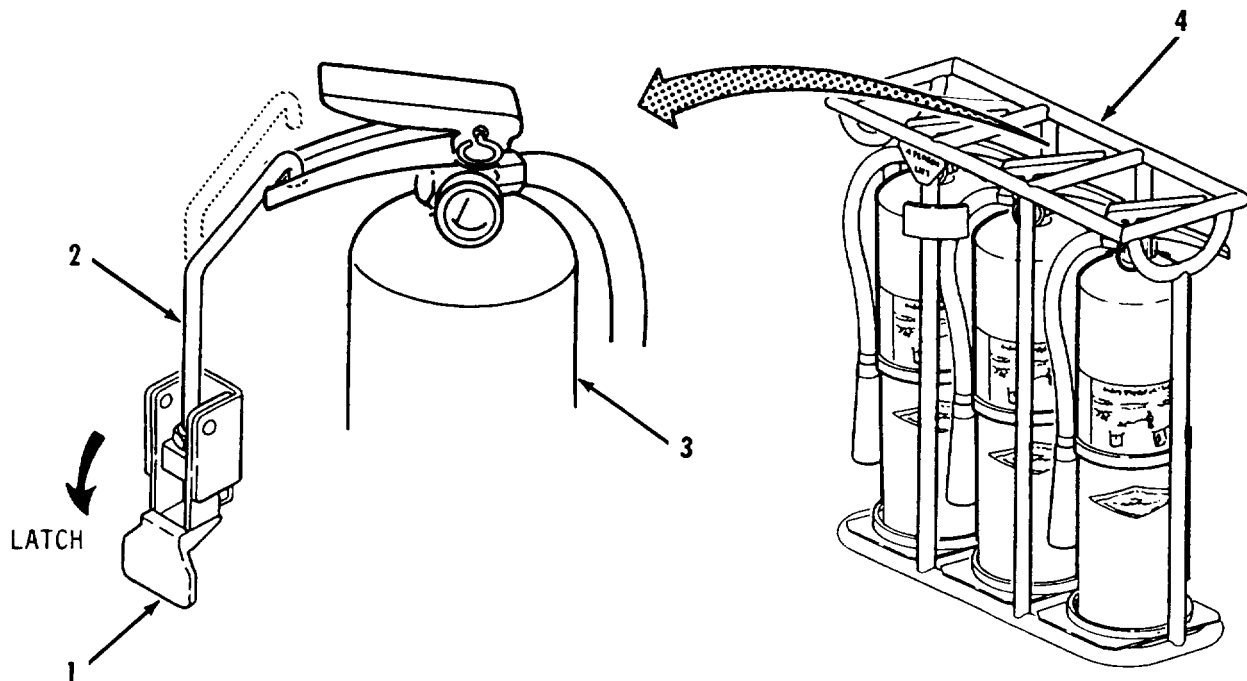

Figure 2-30. Fire Extinguisher Installation.
- v. Fire Extinguisher Installation. Refer to figure 2-30.